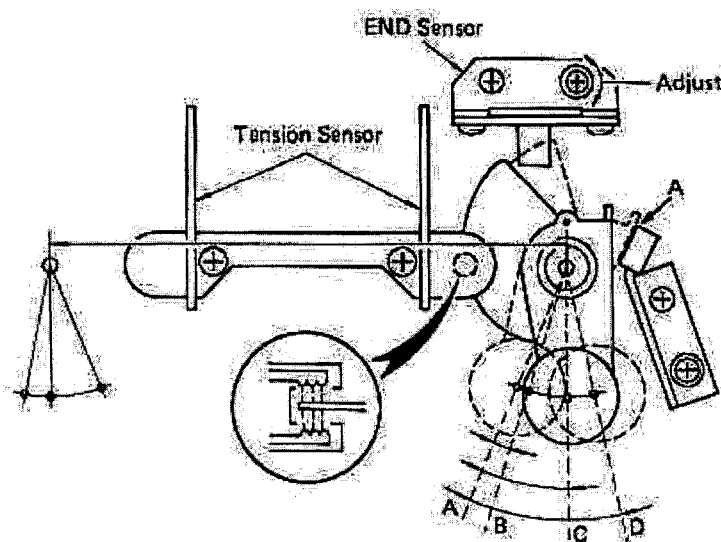
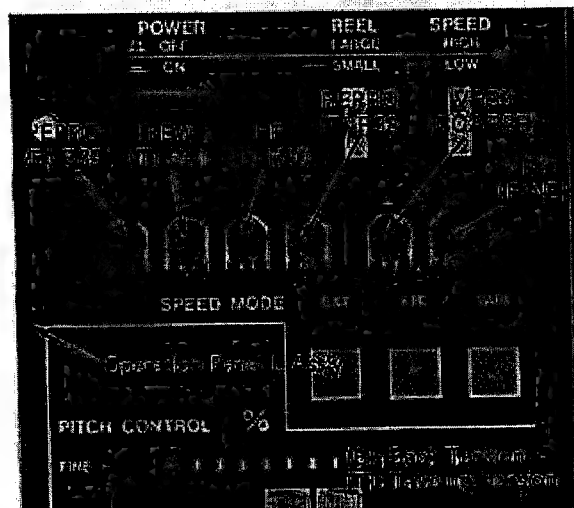
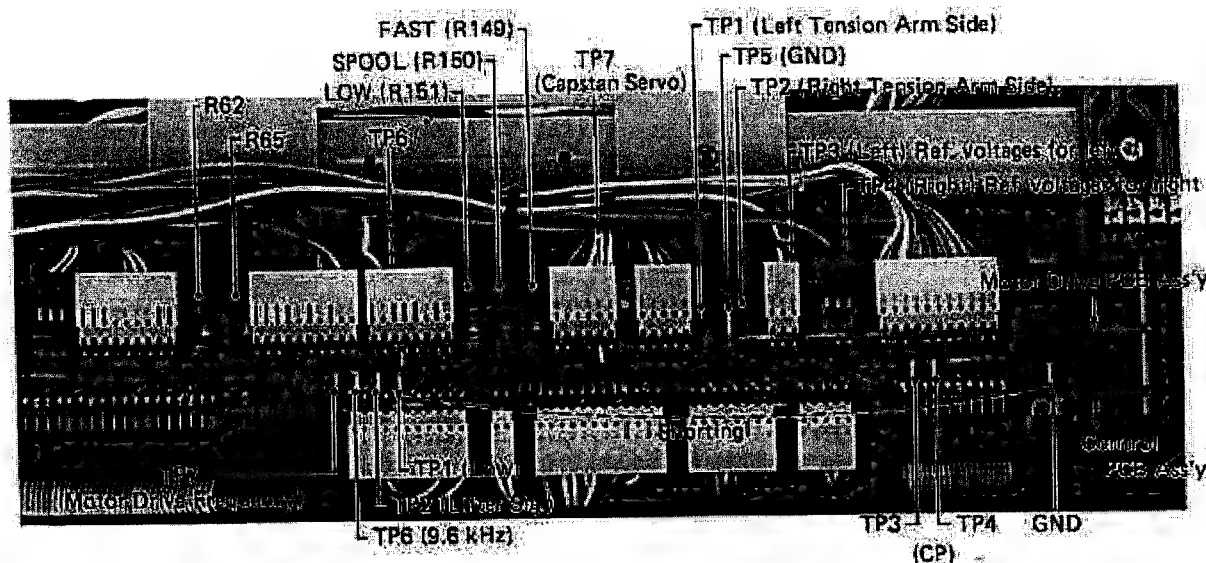
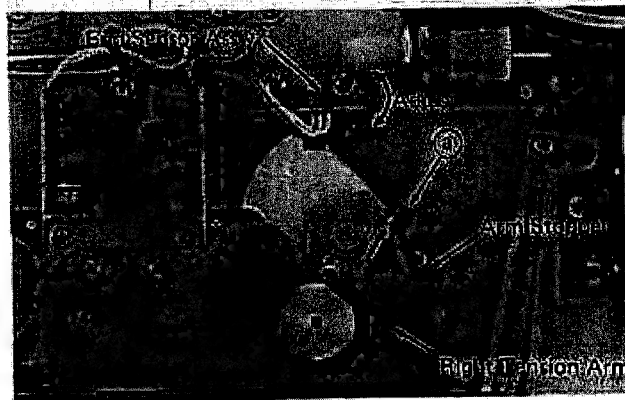

Fig. 9-4-5. Moving Position of The Tension Arm Ass'y
Fig. 9-4-6. Tape Tension Servo and Tape Speed Adjustment Pots
Fig. 9-4-8. Tape Tension Adjustment Pots and Test Points
Fig. 9-4-9. Arm Stopper and End Sensor Ass'y Position Adjustments
The movement of the tension arm between A – C in Fig. 9-4-5 develops voltage at TP-1 (left tension sensor output voltage) and TP-2 (right tension sensor output voltage). (Refer to Fig. 9-4-8 for the test point locations.)
1. Remove the front panel assembly as described in 9-3-1 (C).
3. With the deck in the edit mode, confirm that both tension arms are near the C position shown in Fig. 9-4-5 — about  $22.5^\circ$  from the free position A.
4. If adjustment of the angle is necessary, adjust by adjusting the trimmer resistor located on the upper part of the Operation Panel L assembly. Refer to Fig. 9-4-6.
1. Load a tape and run it in fast forward. Check that the tension arm on the take-up side stabilizes at the C position shown in Fig. 9-4-5. If it does not, correct it by adjusting FF(T), R40 shown in Fig. 9-4-6. Then, run the tape in rewind and check, as in fast forward, that the tension arm on the take-up side stabilizes at C. If it does not, adjust REW(T), R41. If a tentelometer is used to measure tape tension, run tape in the Spooling mode, then stop the supply reel by hand and read the meter at A (in forward spooling) and B (in reverse spooling) shown in Fig. 3-4-7. The measurement should be read at both points. Adjustment pots to be used are the same as in the fast forward and rewind modes:
1. Connect an oscilloscope between TP3 and GND on the Control PCB Ass'y, Fig. 9-4-8.
Adjust the mounting position of the arm stopper so that it reaches point (a) in Fig. 9-4-9 with tape unloaded (no tension applied to the tension arm: i.e., the right tension arm rests at point A in Fig. 9-4-5.).
1. Connect an oscilloscope (double trace type) to two sets of test points, TP3 and GND, and TP4 and GND, on the Control PCB Ass'y, Fig. 9-4-8.
- b. Connect the frequency counter to TP6 and GND on the Control PCB Ass'y, Fig. 9-4-8. Then, while keeping an eye on the frequency counter, adjust VR33 (COARSE) shown in Fig. 9-4-6 until a 9,600 Hz  $\pm 15$  Hz reading is obtained, and then fine-adjust VR31 (FINE) to 9,600 Hz.
1. Prior to making any adjustments to the capstan servo, connect an oscilloscope between test point TP7 and GND on the Motor Drive PCB Ass'y, Fig. 9-4-8; set R65 and R62 to their center positions and place the deck in play mode with a tape loaded.